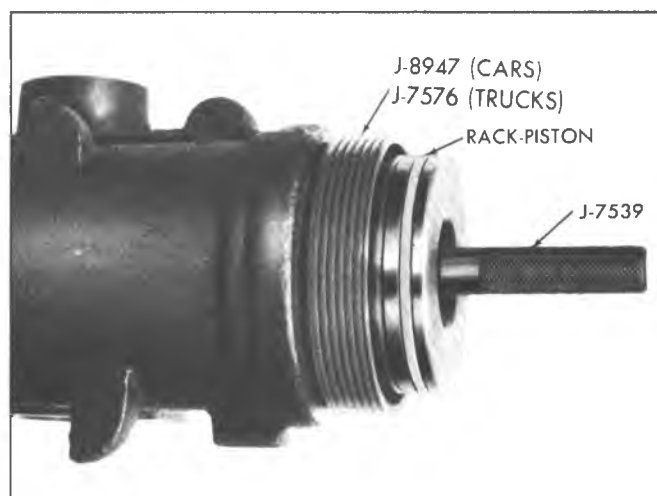

Fig. 59--Installing Rack-Piston
- c. With Ball Retainer J-7539 in place in the rack-piston, push the rack-piston (with teeth toward pitman shaft opening), into the housing until Tool J-7539 contacts the center of worm (fig. 59).